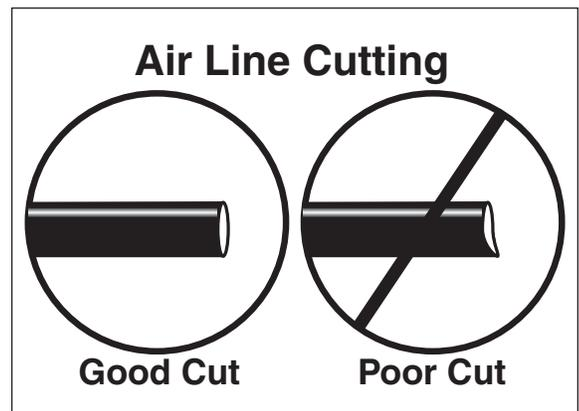

Figure 8
3. Cut the air line assembly (AA) in two equal lengths.
**CAUTION:** When cutting or trimming the air line, use a hose cutter (Air Lift P/N 10530), a razor blade or a sharp knife. A clean, square cut will ensure against leaks. Do not use wire cutters or scissors to cut the air line. These tools may flatten or crimp the air line causing it to leak around the O-ring seal inside the elbow fitting (Figure 8).
7. *Should it become necessary to raise the vehicle by the frame, make sure the system is at minimum pressure (10 p.s.i.) to reduce the tension on the suspension/brake components.* Check to see that the sleeve rolls back down over the bottom piston after the vehicle is lowered (Figure 8). If sleeve fails to roll back down over the piston, add air pressure until sleeve “pops” back over piston (do not exceed 100 p.s.i.).